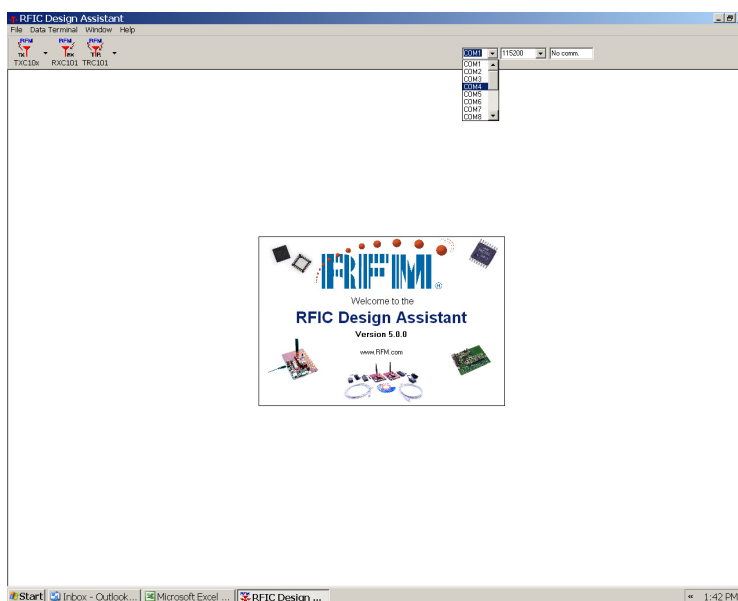

Figure 7 - Starting RFIC Design Assistant
4. Start the RFIC Design Assistant utility program as shown in Figure 7. Select the COM port or virtual COM port assigned to the board set from the drop-down menu at the top of the utility program screen. The COM port can be determined from Windows® as follows: *Start > Settings > Control Panel > System > Hardware > Device Manager > Ports (COM & LPT)*.